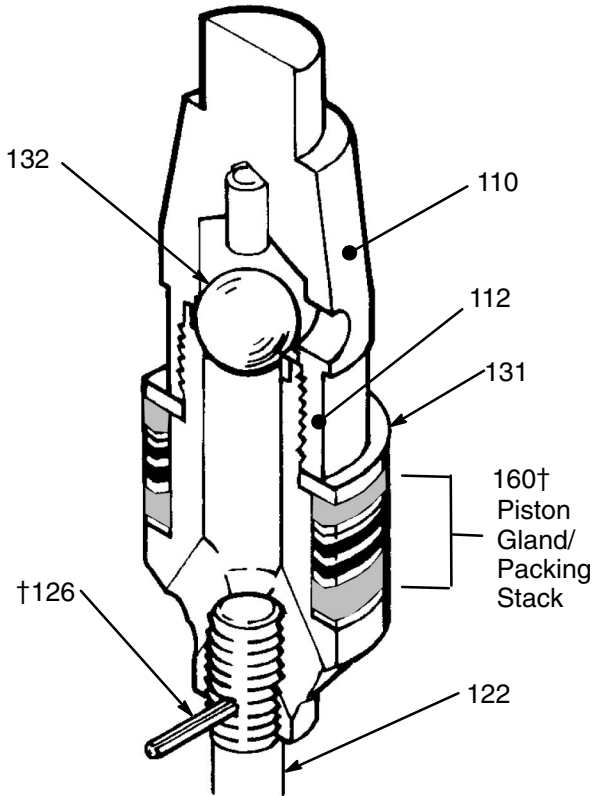

Fig. 6
- Loosely install the wet-cup/packing nut (136) into the pump housing (109).
- Refer to Fig. 6 for displacement pump service. Install the gland/packing stack (160†) on the piston valve (112) as follows, with the lips of the v-packings facing up.
- Slide the gland/packing stack supplied in Repair Kit 222101 down onto the piston valve (112). Do not disassemble the packing stack, and be sure the lips of the v-packings are facing up. Install the backup washer (131) on top of the gland/packing stack.